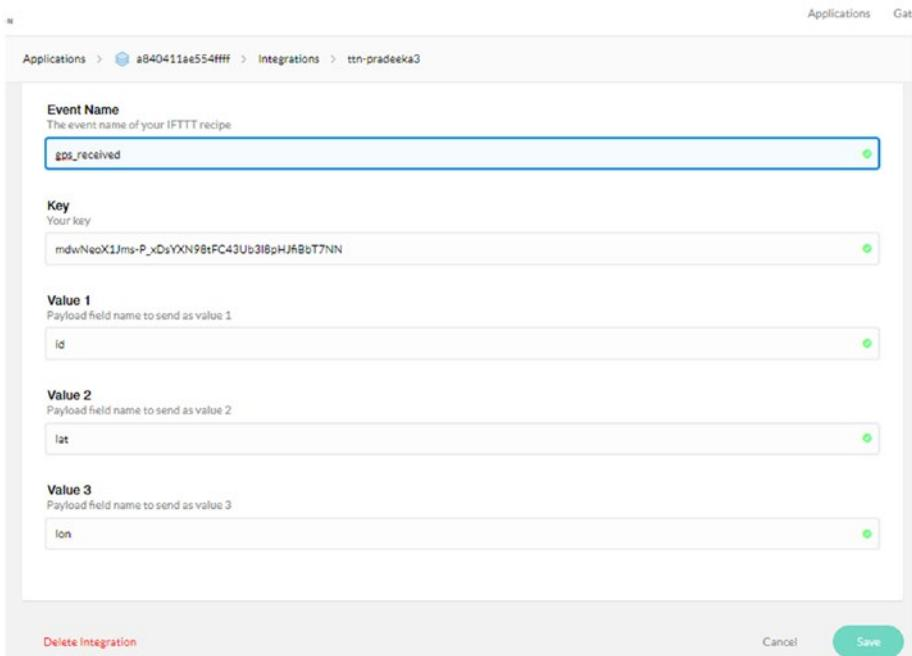

Figure 8-39. IFTTT integration settings
22. Now go back to the IFTTT integration settings page and fill out the form as shown here (Figure 8-39):